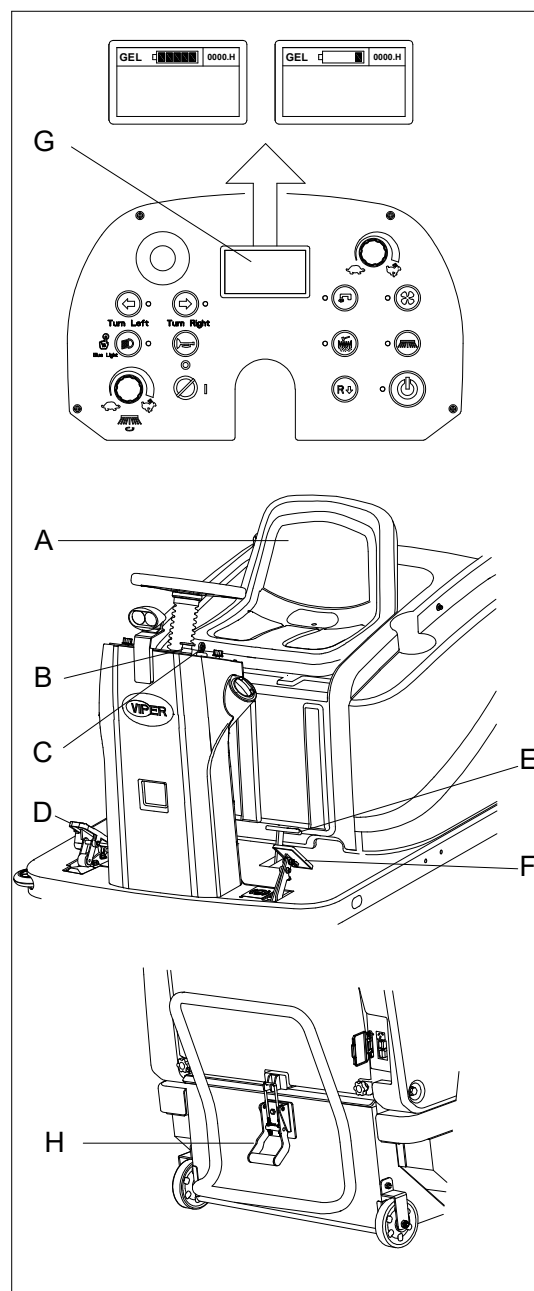

Figure 9
2. Sit on the seat (A, Figure 9), insert the ignition key (C, Figure 9), and start the machine. (See the procedures in the following paragraph)
3. Check the battery level. If the battery icon on the LCD (G, Figure 9) is of 5 bars, the batteries are fully charged for use. If it is of 1 bar or less, batteries must be charged before operation. (Refer to Maintenance chapter for battery charging)
4. Check the parking brake (F, Figure 9). The brake must hold its setting (locked) firmly without easily being released (report all defects immediately to Nilfisk Service Center).
5. Check the flap pedal (E, Figure 9) for proper operation.
6. Press the accelerator pedal (D, Figure 9) slightly then release it to check if the machine can be steered forward and stopped.
7. To ensure safety, confirm the machine can be stopped immediately when pressing the emergency stop button (B, Figure 9). Turn the emergency stop button to reset it.
9. Make sure that the hopper (H, Figure 9) is properly closed.